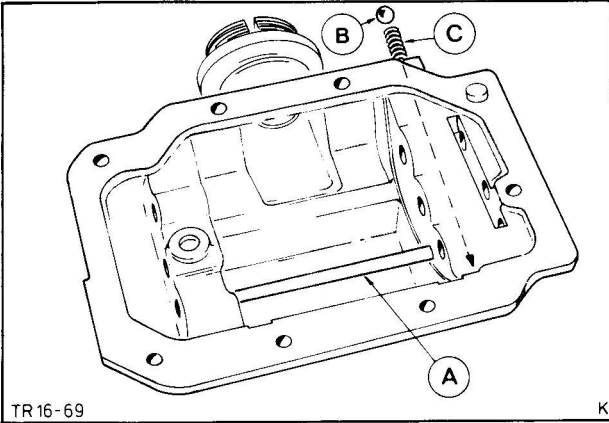

Fig. 120. Selector fork guide rod fitted
- 8. Refit selector fork guide rod, Fig. 120.
- 9. Fit reverse gear selector rail and fork, first inserting spring and ball, Fig. 120, and then pressing down until selector rail can be slid in.